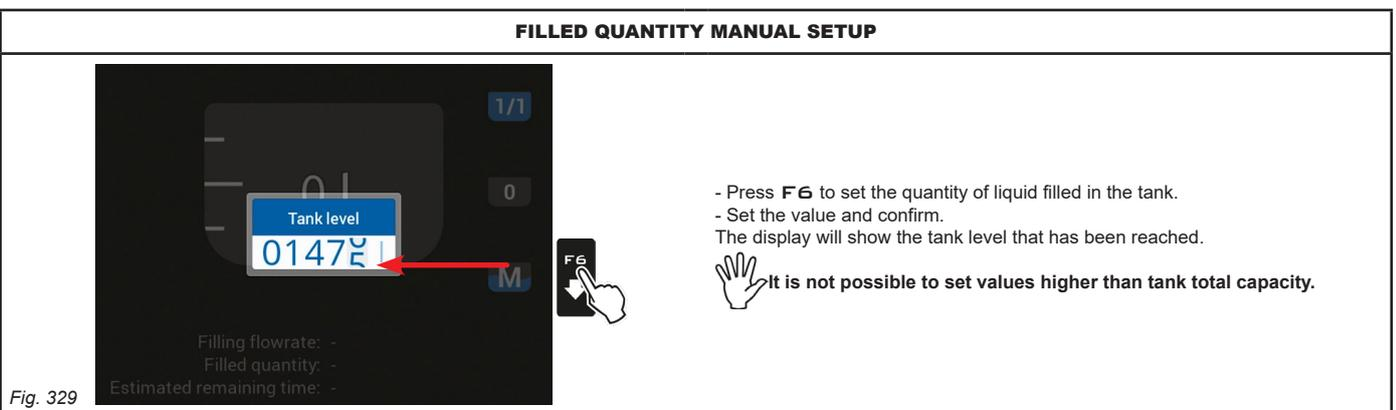

Fig. 329
- Filled quantity manual setup (Fig. 329)